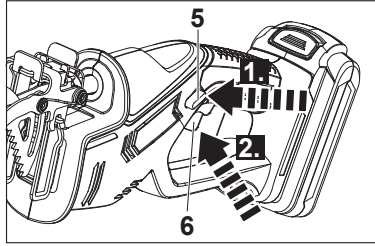

Fig. 13
2. Press the on/off switch (6) to switch the product on (Fig. 13).